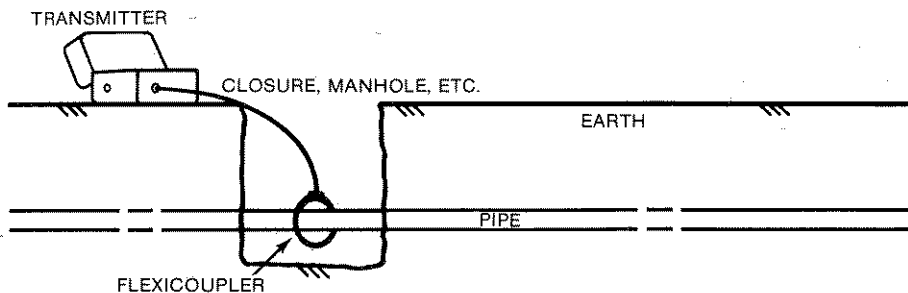

Figure 2-4.
4. Plug the jack end of the flexicoupler cord into the RED/BLACK TEST CORD jack receptacle on the transmitter (see Figure 2-4)